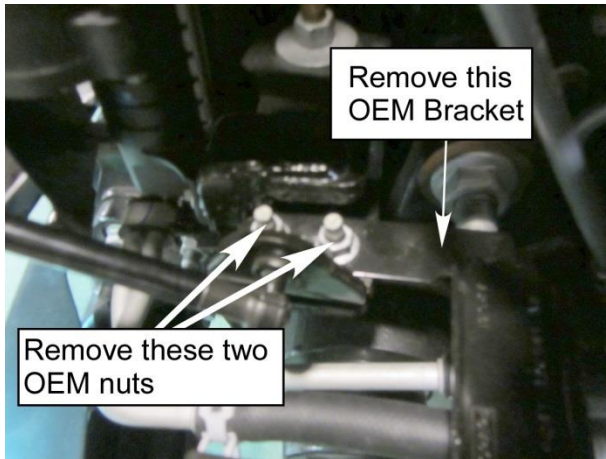

Figure 36. OEM Bracket to be removed.
5. Remove the two OEM nuts attaching the OEM harness bracket to the frame mount as shown in Figure 36. The hood strut can be disconnected if necessary. Remove the two captured OEM bolts, and the OEM harness bracket.